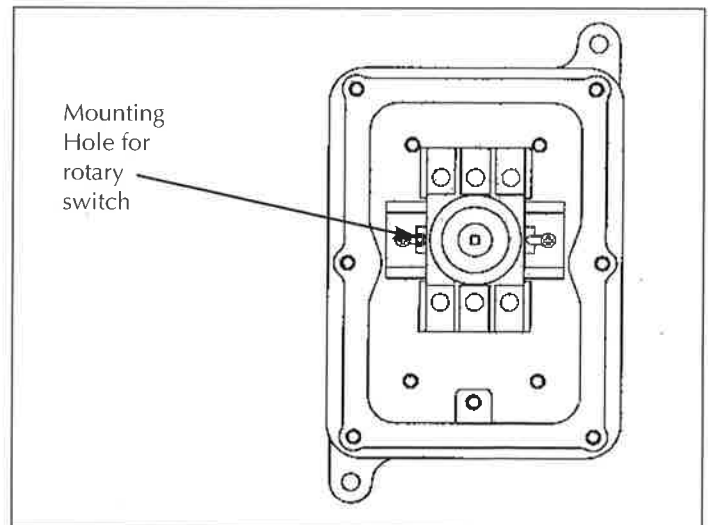

FIGURE 18
2. Center factory supplied replacement switch along DIN rail and secure left edge of switch using pre-existing screw and lock-washer (see Figure 18).